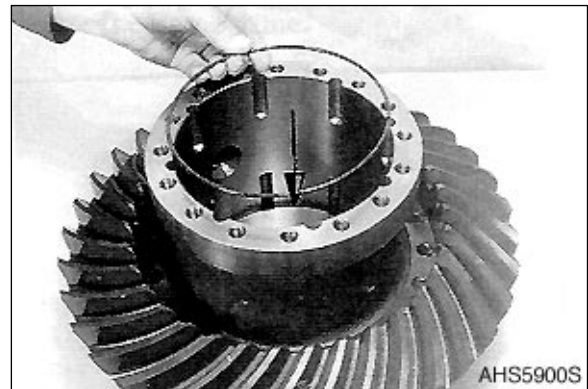

Figure 216
- Lay snap ring into the ring groove, see Figure 216.